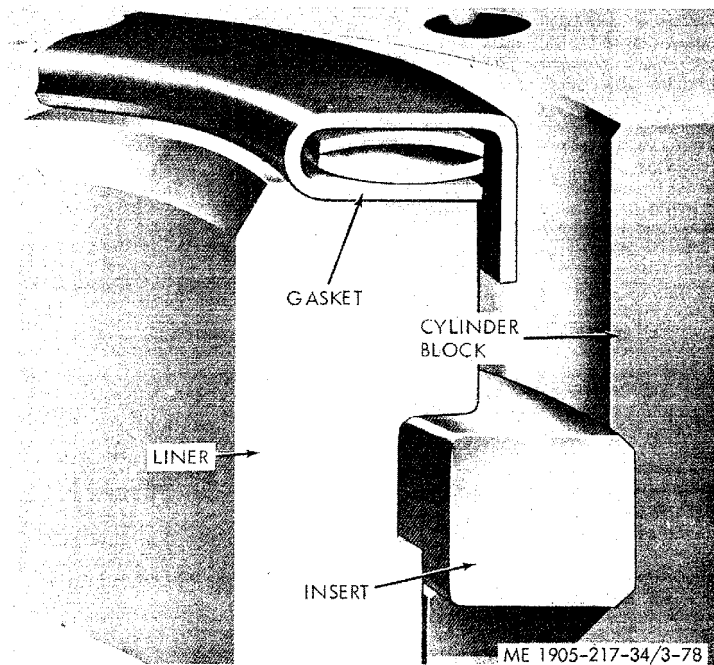

Figure 3-78. Cylinder liner mounting in block.
(1) Wipe the inside and outside of the liner clean, and make sure the counterbore in the block is clean, so the liner insert will seat properly. The counterbore must be from .4785 inch to .4795 inch in depth and must not vary more than .001 inch in depth around the circumference.
(2) Place a liner insert in the counterbore of the block (fig. 3-78).